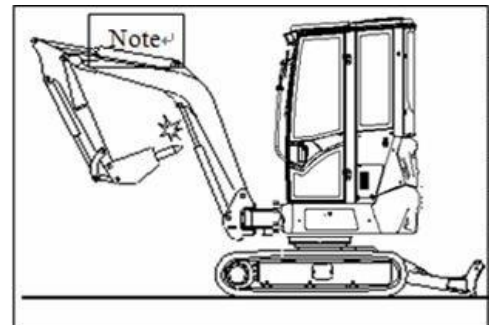

FIG. 4.7.2
- 4) Don't operate hydraulic breaker when hydraulic cylinder piston retracts or extends fully, avoid damaging hydraulic cylinder or machine. (as FIG. 4.7.2)